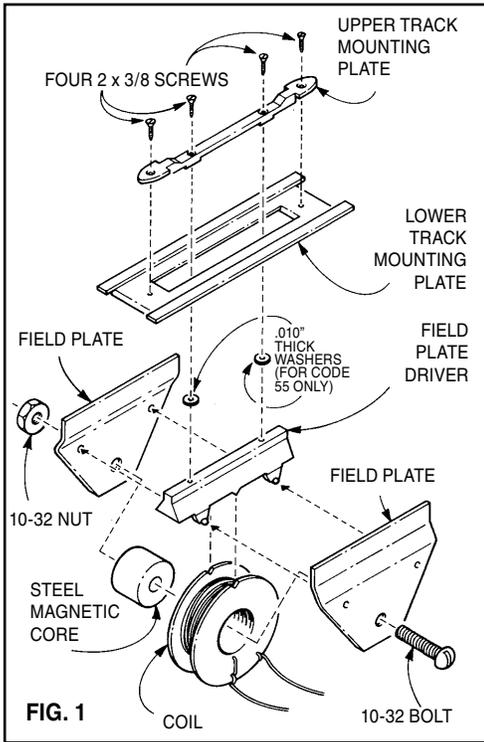
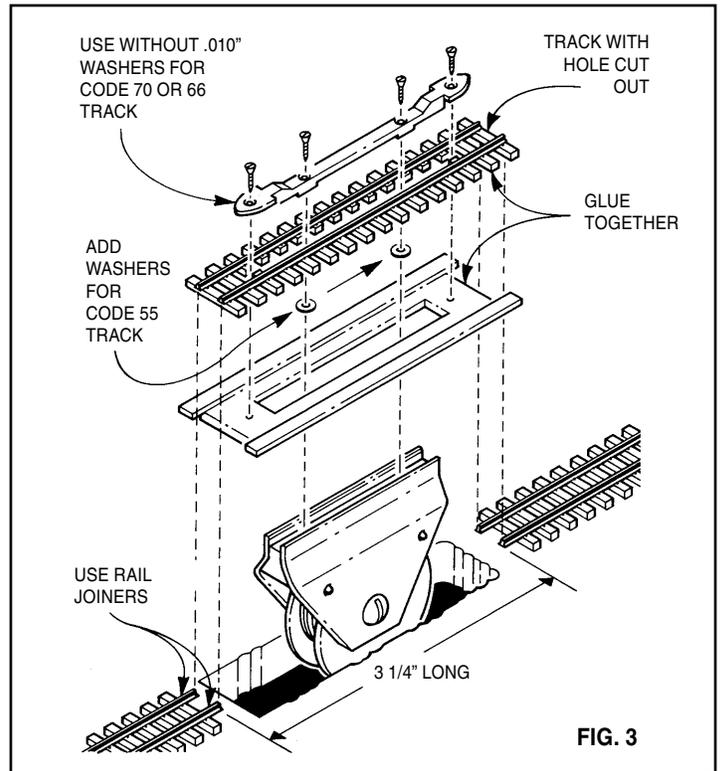

FIG. 1
FIG. 3
- Next, inspect the lower track mounting plate for use (Figs.1 & 3). This HO n3-HO plate can be used. However, it may need to be narrowed slightly if you use roadbed. Be sure and use side of plate as indicated in the illustrations.
- We recommend flex or sectional track-be used with the uncoupler for ease of application and strength, although hand laid rail can be used also. First, use a track cutter, razor saw (hack saw), or a mini power tool (Dremel® type) with a metal cutting disc attachment (always use proper eye protection), to cut the rail just over 3 1/4" long (Fig. 3) and test fit it into the gap between your layout rails. File off any excess until rail joints fit snugly. Second, assemble uncoupler parts (Fig. 1) and check assembly to make sure everything fits. It may be necessary to trim the runner off upper track mounting plate. With bolt and nut moderately secure but not real tight, turn uncoupler assembly upside down and tap on flat surface. This will set the field plates even with the upper track mounting plate. Now, tighten up nut and bolt firmly and unscrew the track mounting plates. Set aside. Third, you will need a hole in the ties wide enough and long enough to accommodate the field plate/coil assembly. Trim ties on a hard, non-giving surface to avoid broken spikes in the case of flex or sectional track or split ties in the case of hand laid wood ties. Fourth, glue ties to the lower track mounting plate (Fig. 3). Contact cement works well with wood, plastic or Delrin ties. Be sure ties are centered on plate, then let glue dry thoroughly. Fifth, in case of hand laid ties, glue, rather than spike, the rail to the ties. Cyano-Acrylate works well as an adhesive for this application.
5. After all parts have been prepared, assemble in sequence as illustrated in Fig. 3. Install metal rail joiners at the ends of the rails on the layout, push them as far back as they'll go. Lower uncoupler assembly into place (Fig. 3) and pull rail joiners over rail joints.
1. Assemble uncoupler completely minus lower track mounting plate and track. Be sure and use the included .010" thick washers as shown in Figs. 1 and 3.